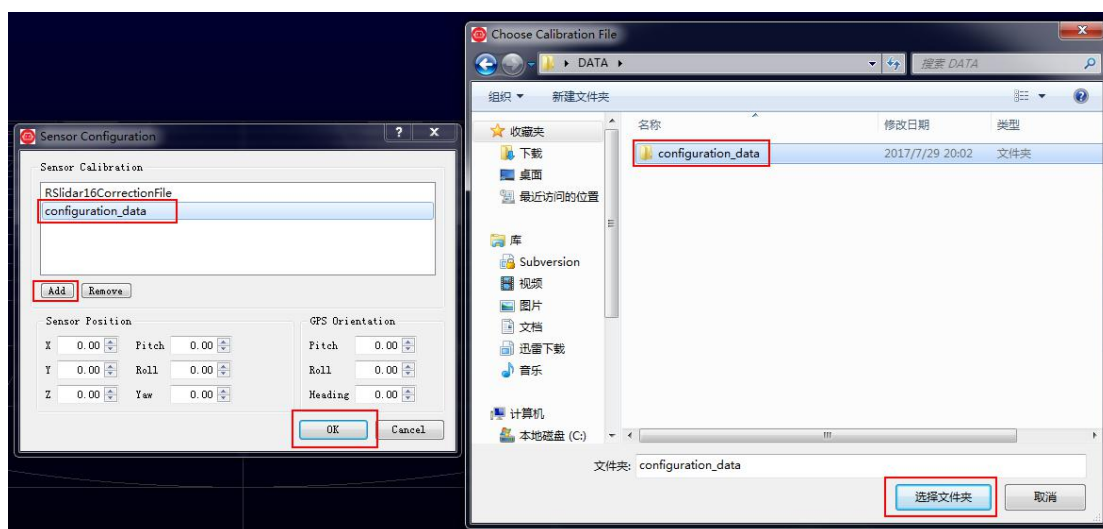

Fig C-2 RSView Select Sensor Correction File
4. The Sensor Configuration dialog will appear. The application contains a default configuration folder of RSLIDAR-16 called "RSlidar16CorrectionFile" for reference, but please add the right configuration files folder of the RSLIDAR-16 you have, or you will get chaos point cloud display with the default configuration files. Select the configuration files folder of your lidar and then click **OK** (Fig C-2). The path of the folder should only include English characters and should include all three csv files (angle.csv, ChannelNum.csv, curves.csv). You can find the configuration files folder named "configuration\_data" in the U disk in the RS-LiDAR-16 package box or you can ask the RoboSense support to get the files.